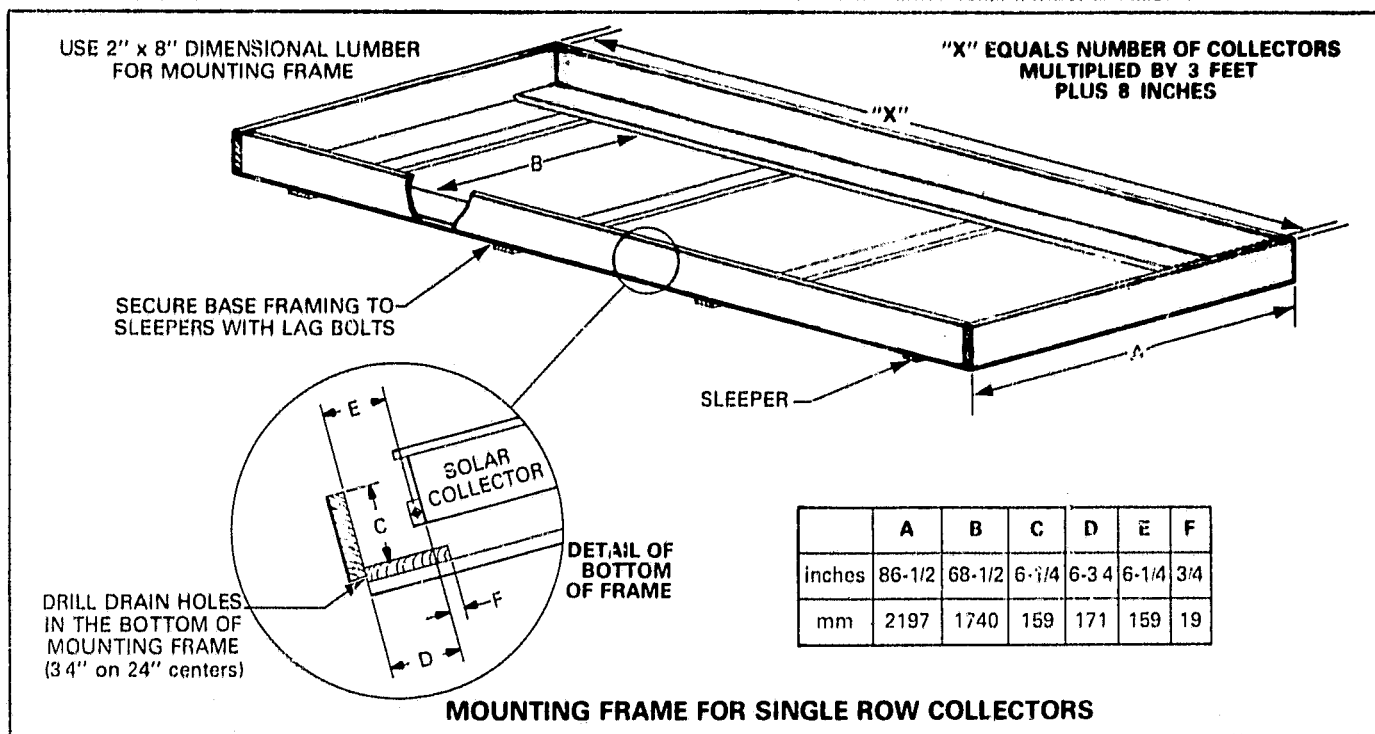
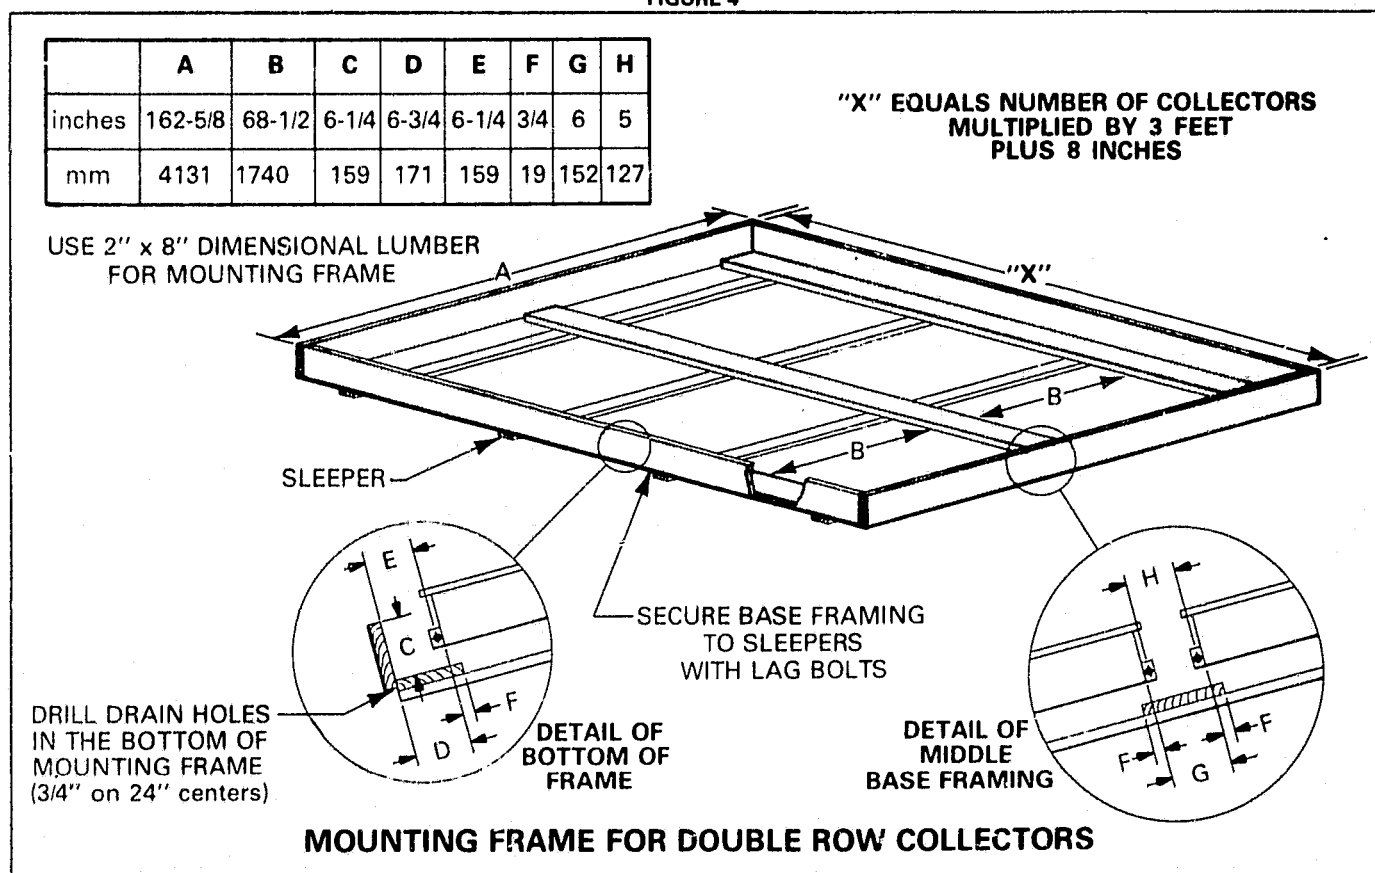

FIGURE 4
FIGURE 5
- 2 - Figure 4 illustrates typical framing construction for one row of collectors. Figure 5 illustrates construction for two rows of collectors. 2" x 8" dimensional lumber is utilized.